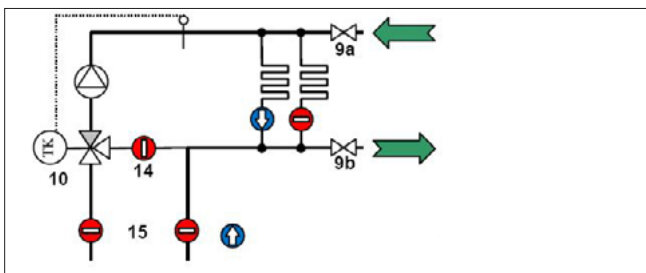

Fig. 8-4
7. To fill and flush the heating circuits, connect the filling hose to the supply fill and drain valve (9a, Fig. 8-4) and the emptying hose to the return fill and drain valve (9, Fig. 8-4).
**The non-return valve (14) in the mixer bypass prevents any short circuit when flushing.**